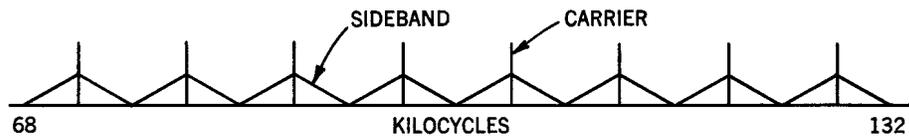

Fig. 3 - Frequency Arrangement for 16 Channels on ON/K
2.01 The 16 channel ON/K system and the 12 channel ON1/K system was designed for shorthaul use over the same cable pairs used for K carrier. The ON2/K occupies a frequency band of 68 to 132 kc; the ON1/K system the 80 to 136 kc band. Line filters are used to separate ON/K frequencies from K carrier frequencies at the input of each repeater, terminal, and junction and to combine these frequencies at the output. Repeaters are located at the same locations as the K carrier repeaters. Also, junctions must be located at K terminal or repeater locations. Only ON1/K can be extended over O carrier facilities. The system is designed to operate on cables arranged for single section crosstalk cable balancing. Approximately 100 db gain is provided for each cable section at the top of the frequency band. Equalization is provided for the 28 db slope of the cable characteristic over the 68 to 136 kc band. Fig. 2 gives a simplified block diagram of one section of ON/K and Fig. 3, the frequency arrangement for 16 channels of ON/K carrier.